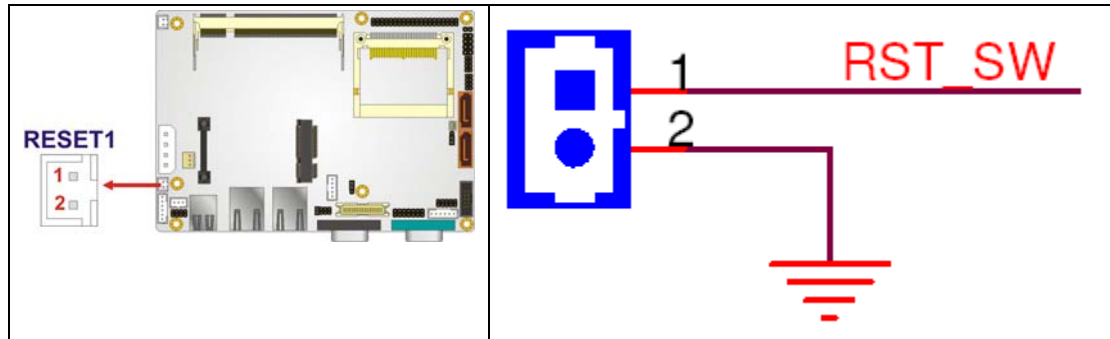

Figure 4-14: Reset Button Connector Locations
- CN Location:** See **Figure 4-14**